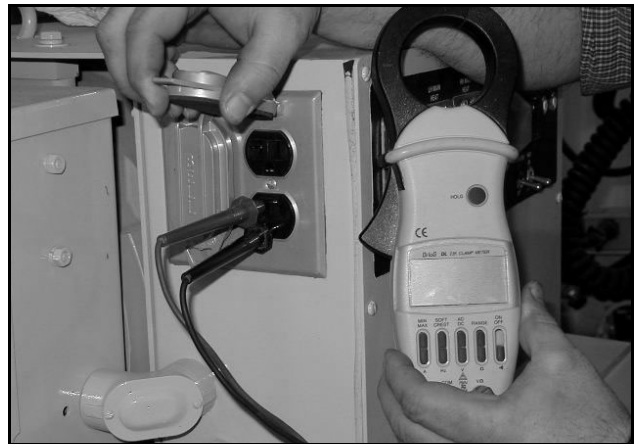

Figure 41 Setting Generator Frequency
- 1) Install a frequency (Hz) test meter into the 120-volt outlet on the generator control box (Figure 41).